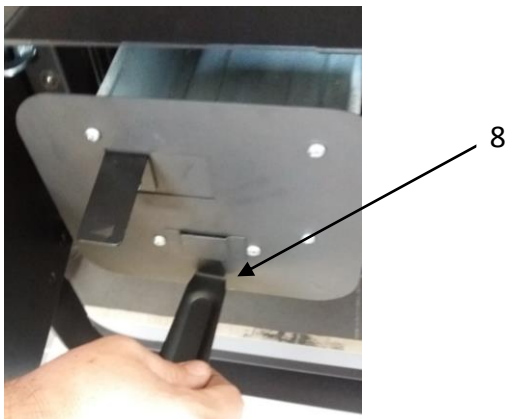

Figure 2
A special key is used to remove (lift up), take away and return the ashtray over the support of the ashtray as shown in figure 2., item 8.